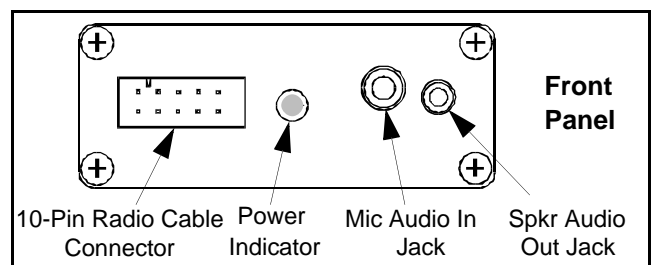

Figure 6-3 RPI Front Panel
3. If the receiver squelch adjustment will be made, connect a SINAD meter to the Speaker Audio Out jack on the RPI (see Figure 6-3). This is a low level fixed audio output, and a 2.6 mm (3/32”) phone jack is used.
2. Connect a SINAD meter to the receive audio jack of the RPI (see Figure 6-3) This is a low level fixed audio output.